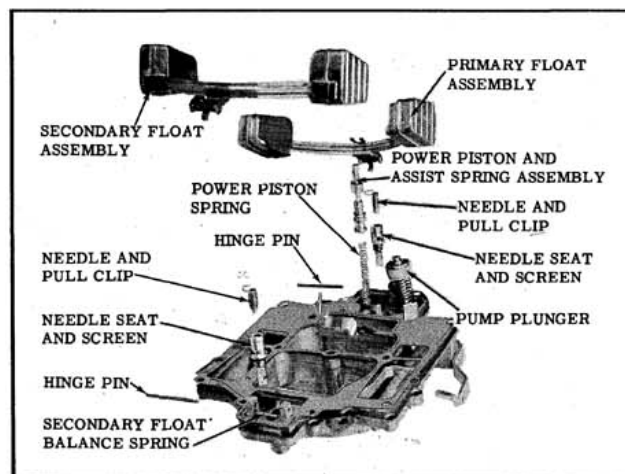

Fig. 4-48 Air Horn Assembly
### Disassembly of Air Horn (Fig. 4-48)
10. Remove the hinge pin (torsion spring on 34, 36, 38 and 52 Series) from the primary float assembly, and remove the float and needle. (Fig. 4-48) Do not remove the float balance spring unless it is distorted and needs replacement.